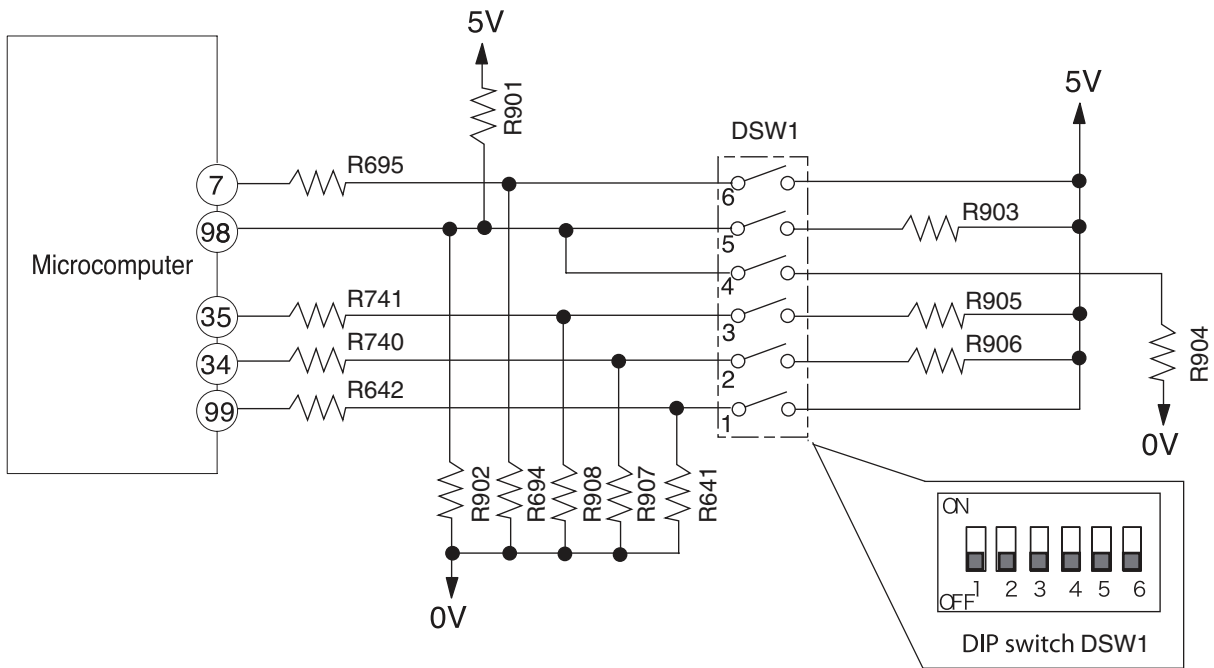

Fig.10-1 Dip switch Circuit
- Fig. 10-1 shows the dip switch circuit; the table shown in Fig.10-2 are function and setting position from ① – ⑥ of the switch no.